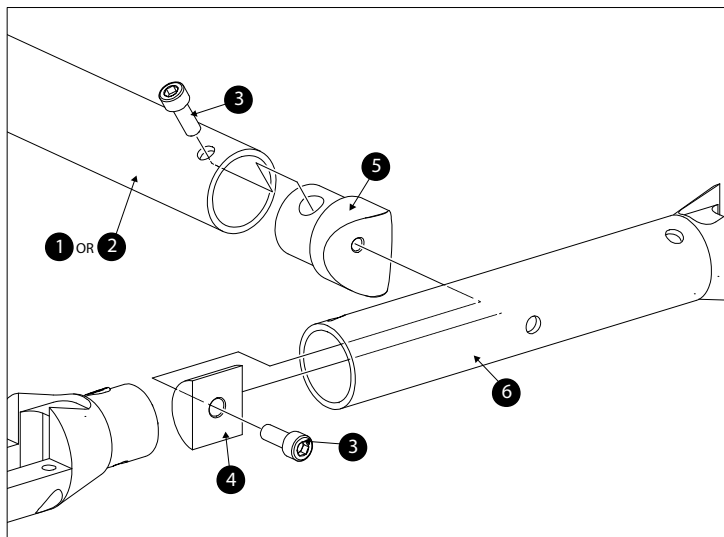

Figure 4b - Triple/Quad Handle Bar Subassembly
Once removed from the burner, the Handle Bar Assembly can be disassembled loosening the screws (Figure 4a, item 6) which hold the tube(s) (Figure 4a, item 2) with the ends (Figure 4a, item 1). These screws can be accessed from the holes in the handle bar. On the triple and quadruple burner assemblies, the tube arrangement may be dismantled as shown in Figure 4b: